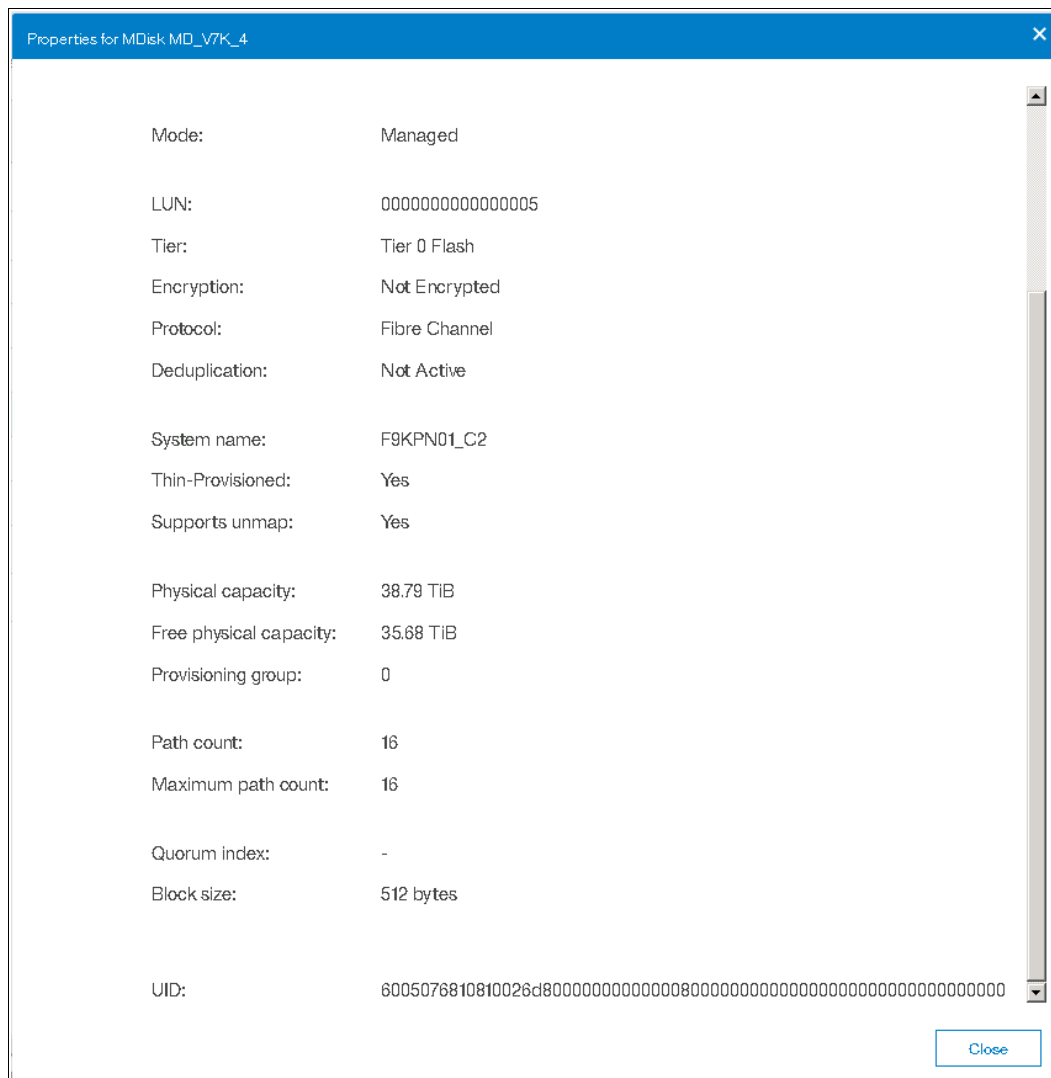

Figure 4-15 IBM SAN Volume Controller MDisk details for IBM FlashSystem volumes
3. At the virtualizer, review the MDisk details and compare the MDisk UID field with the FlashSystem Volume UID, as shown in Figure 4-15. The first 32 bits should be the same.